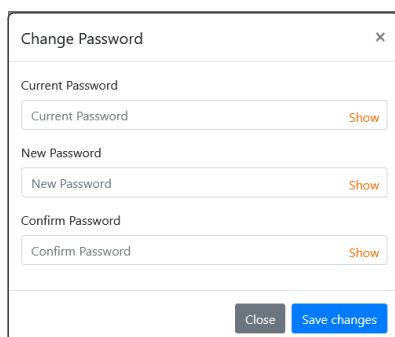

Fig. 10.5: Change Password dialog
- “Change Password” allows modifying the password of the account. To protect the privacy, it is recommended to change the password after the first access (see Fig. 10.5).